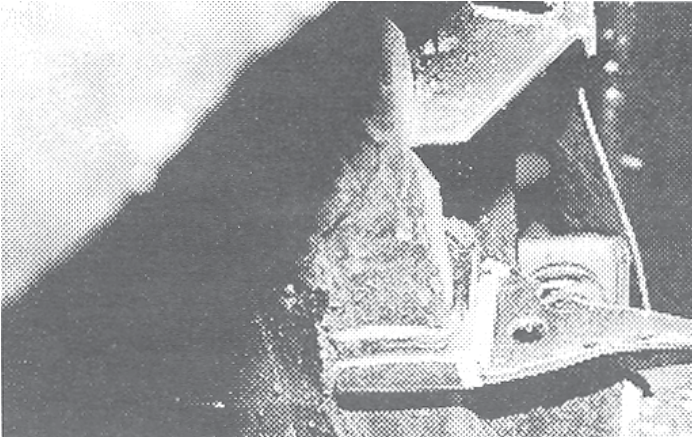

Fig. 12B
- (III) Cut rear side of bracket flush with frame 3/4" up. Cut bracket horizontally out 2" from this point. Cut bracket vertically to intersect horizontal cut and outside edge of receiver, **Fig. 12B.** You should now have removed the OE extended stop.